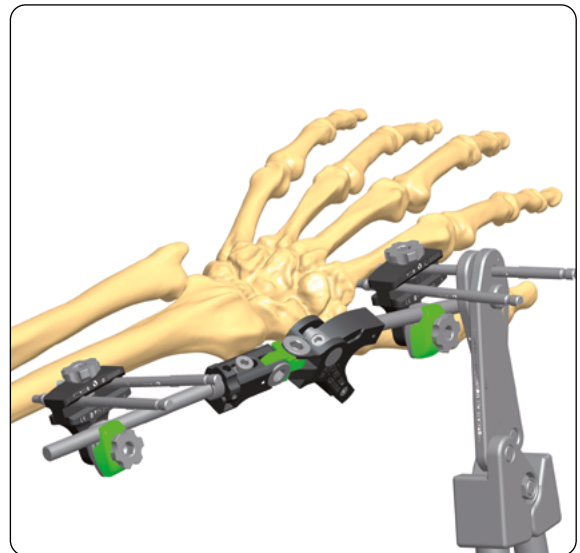

Fig. 29
- If necessary, cut the screw shafts with the 4mm Cutter (94101-not provided in the tray) (**Fig. 29**)